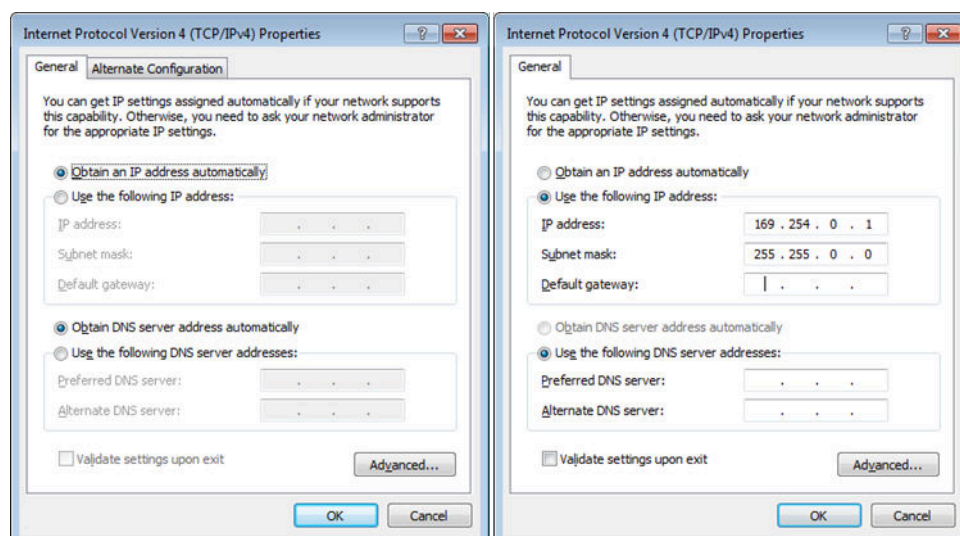

Figure 98: Internet Protocol Version 4 (TCP/IPv4) properties
4. By default the interface is configured to obtain an IP address automatically by a DHCP server, shown in Figure 98, usually provided by routers or dedicated servers. A fixed IP address and Subnet mask can be entered like shown in Figure 98 right, after choosing *Use the following IP address*.